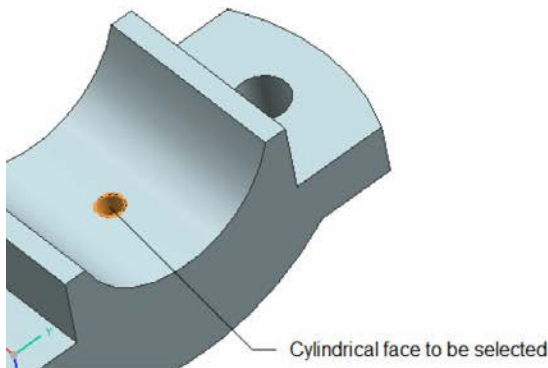

Figure 8-90 Cylindrical face to be selected from the Cap
6. Select the cylindrical face of the Cap, refer to Figure 8-90. Next, select the cylindrical face of the Brasses, refer to Figure 8-91.